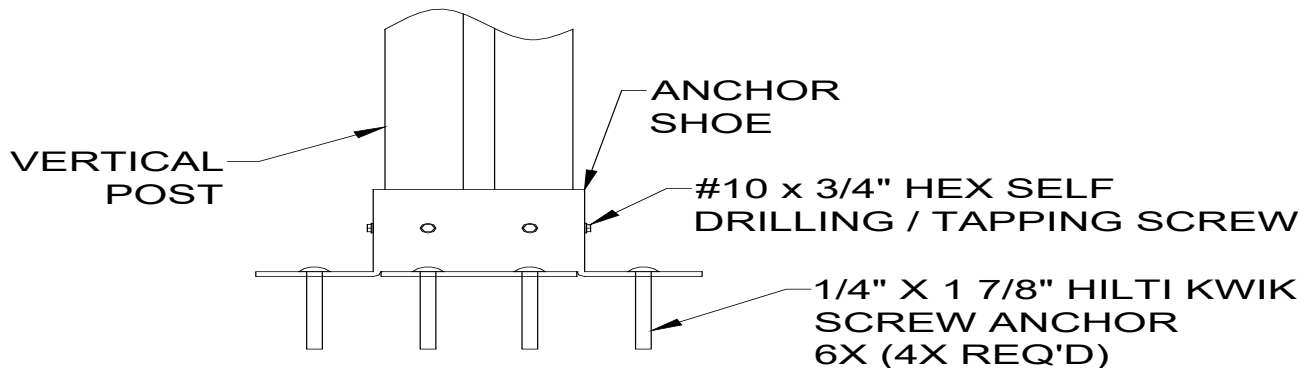

Figure 3
Anchor the shelter to the concrete pad. **See Figure 3. Prior to installing anchor boots the (4) holes for anchoring to concrete require reaming out to 3/8" dia hole.**